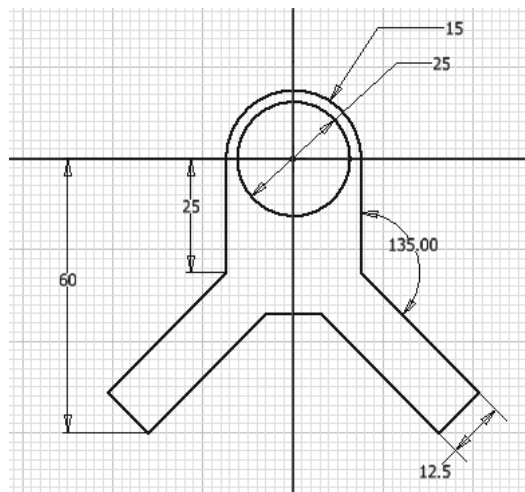

Figure 3-62 The final dimensioned sketch for Tutorial 4
- Choose **Dimension** from the **Constrain** panel of the **Sketch** tab and select the circle. Place the diameter dimension below the arc dimension. Enter **25** in the **Edit Dimension** toolbar and then press ENTER. This completes the sketch for Tutorial 4. The final dimensioned sketch is shown in Figure 3-62.